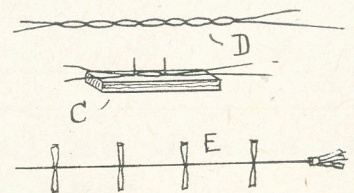
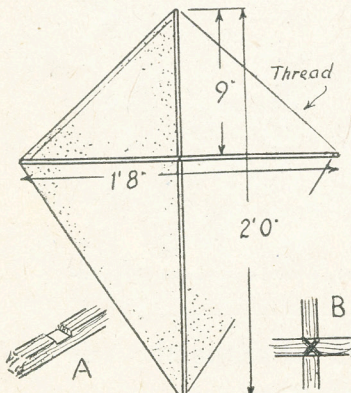

Fig. 2
Fig. 1
Make it about 3 ft. long, doubled, of course. For some 12 ins. of the middle, the doubled thread should be knotted to form a succession of loops, as at (D), in Fig. 2, so that the position of the kite line can be adjusted, as may be found necessary.
Take a double-spread sheet of newspaper and roll it up, as shown in Fig. 1. Tie the ends, like a sausage. Then prepare another roll (Fig. 2).